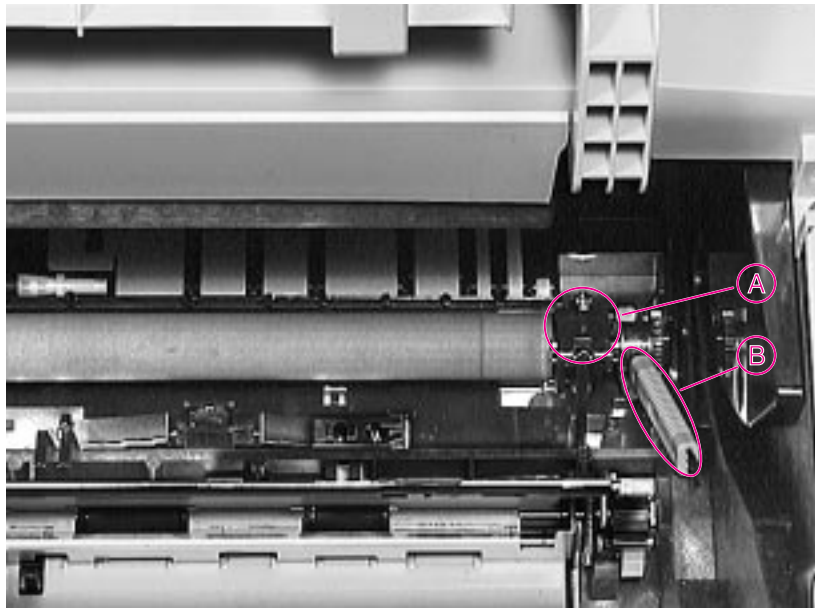

Figure 6-22 Right Side of Transfer Roller
- 2 Free the Transfer Roller from the hinged clip by lifting straight up using the blue cleaning brush located inside of the top cover (Figure 6-22).